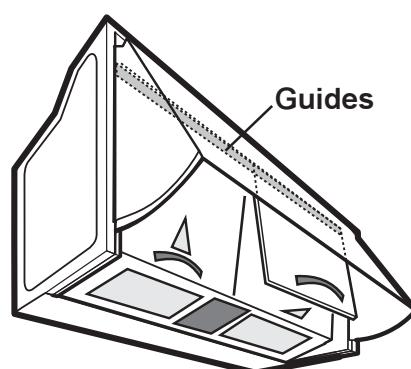

Fig. 5b - EFI 640
- First pull the handles upwards, then extract the filters outwards. **Fig. 5b.**
To refit: they should be inserted above between the appropriate guides until it latches into place, and after having attached the grille to the cooker hood also in the lower part. **Fig. 5b.**